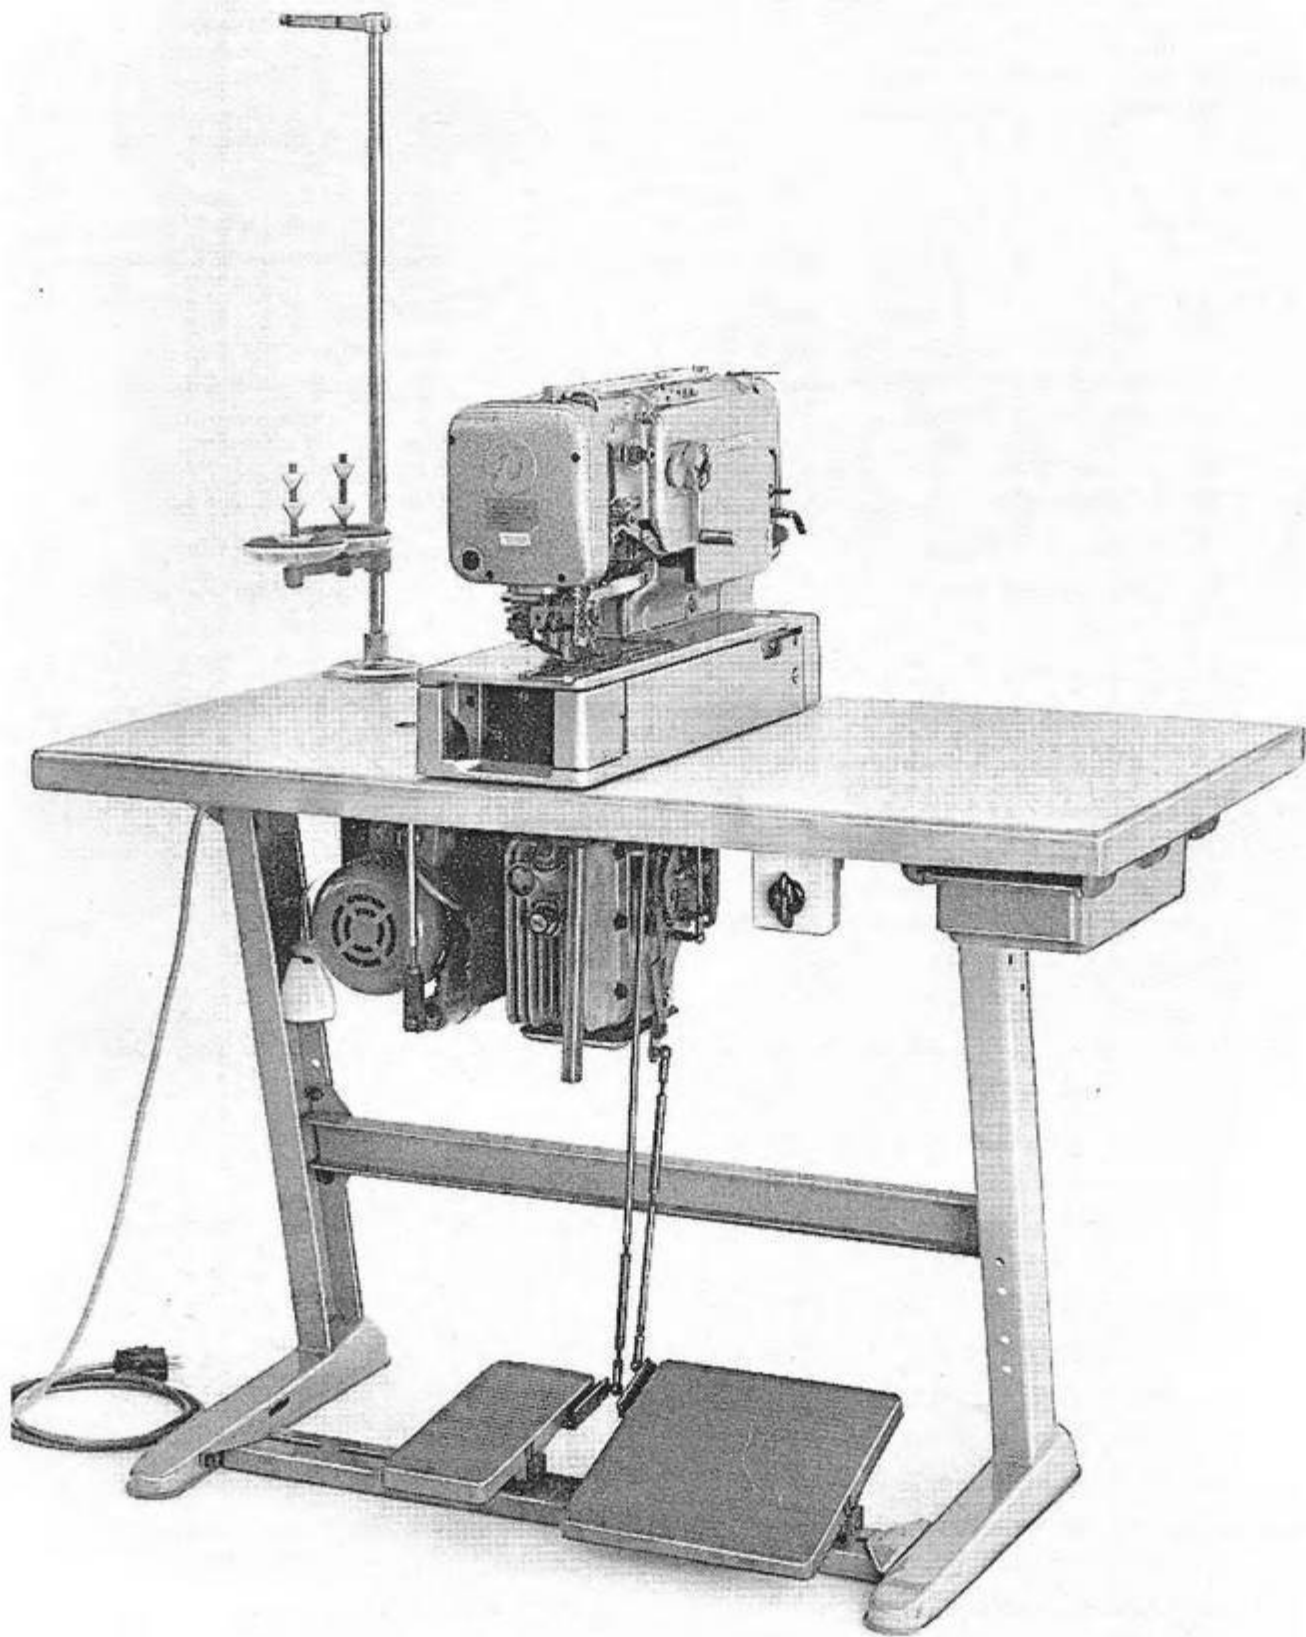

Fig. 1: Transversal installation of DÜRKOPP 556
16. Mount pedals and bars according to figs. 1 and 12 or 2 and 13, depending on the type of installation. The rod length has been adjusted in the factory. Therefore it is only in exceptional cases that the following adjustments of the pedals are necessary.